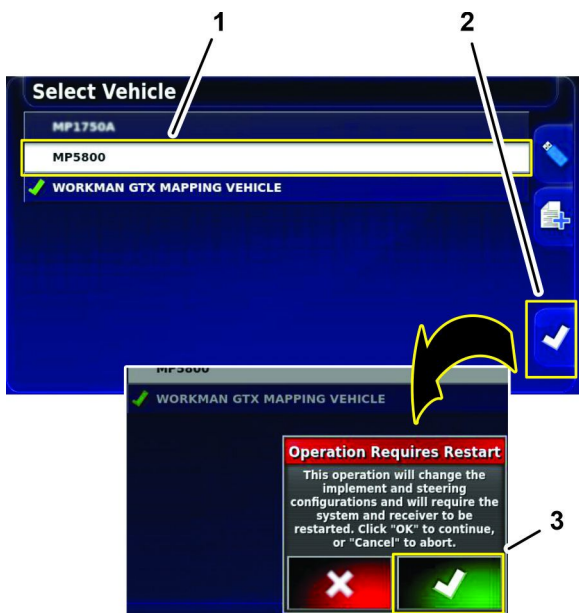

Figure 203
2. Press the icon for the sprayer vehicle, and press the select icon (Figure 203).
3. In the operation requires restart dialog box, press the confirm icon (Figure 203).